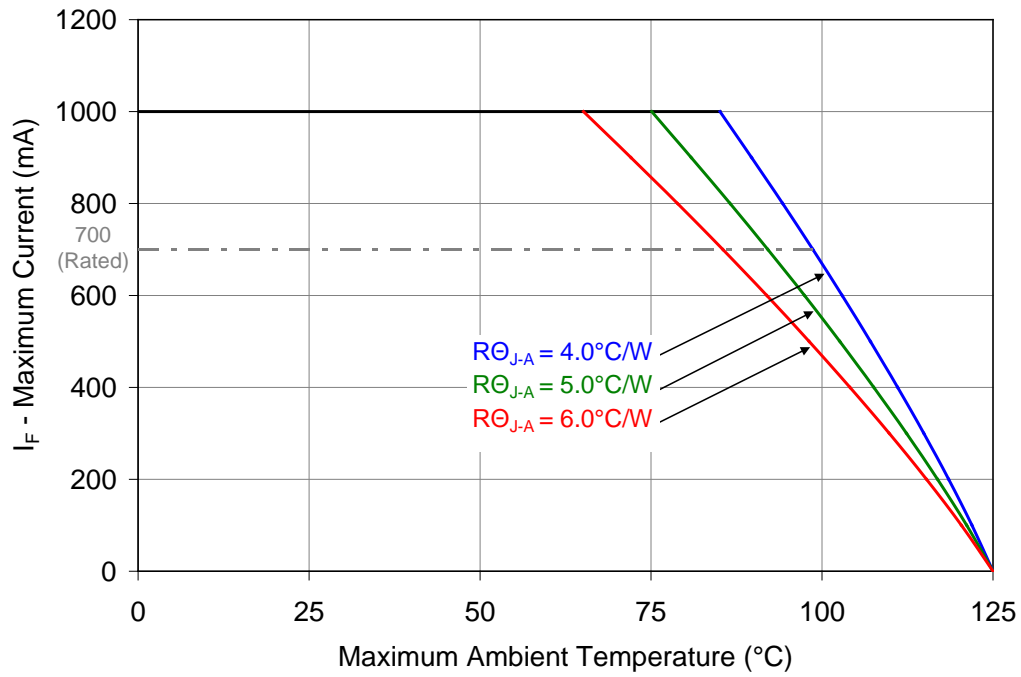

Figure 10: Maximum forward current vs. ambient temperature based on  $T_{J(\text{MAX})} = 125^{\circ}\text{C}$ .
- Maximum DC forward current (per die) is determined by the overall thermal resistance and ambient temperature. Follow the curves in Figure 10 for current derating.
Notes for Figure 10: